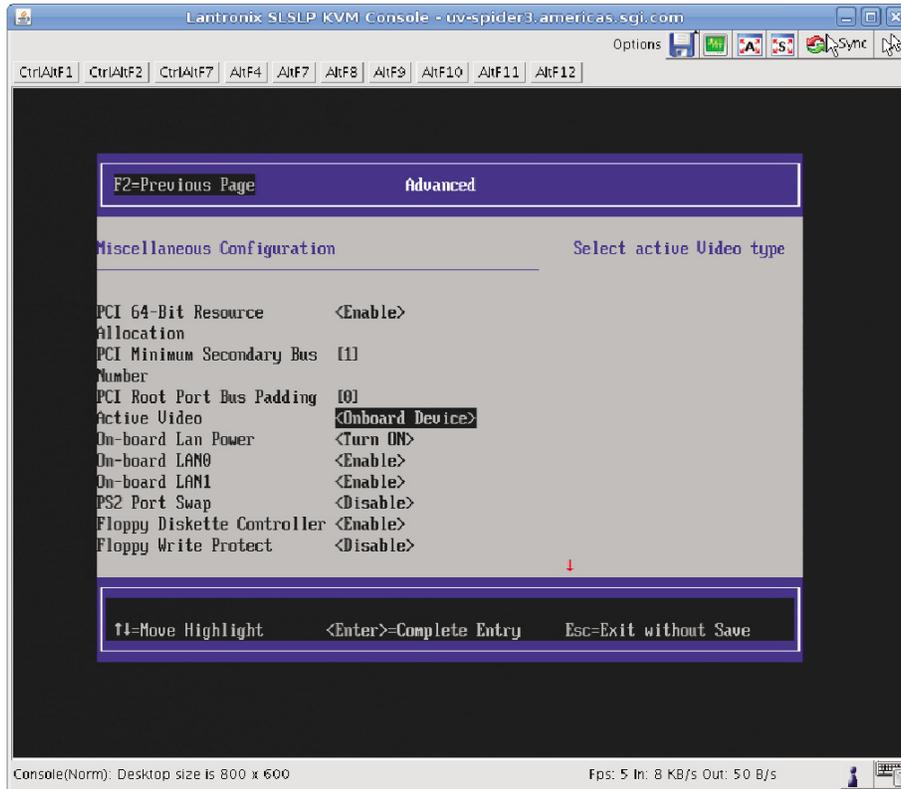

Figure 2-6 Miscellaneous Configuration Screen
6. From the **Miscellaneous Configuration** screen, as shown in Figure 2-6 on page 33, for **Active Video** select **<Onboard Device>**.